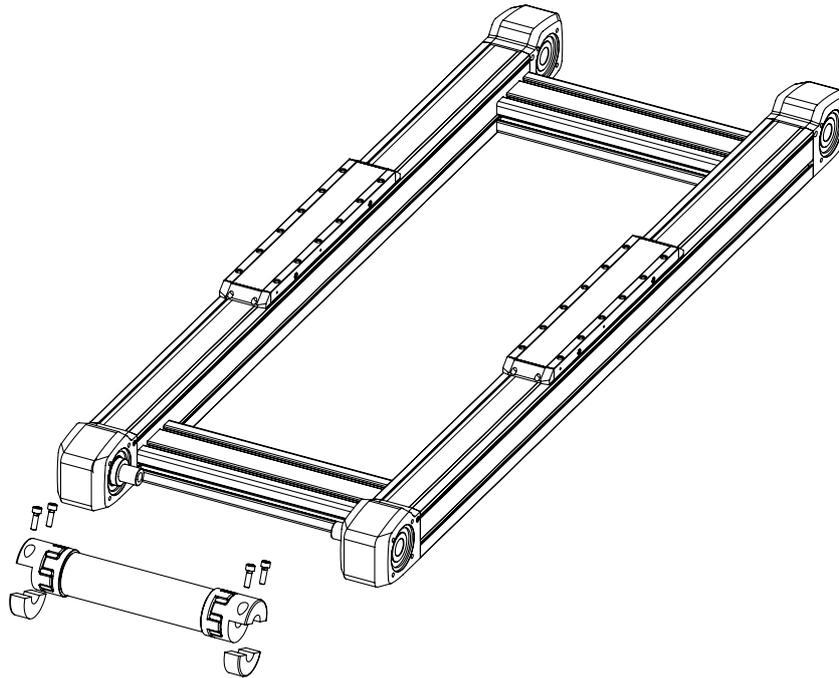

Fig. 6.4 Mounting the synchronous shaft
- ▶ Mount the half shell clamping pieces on both sides, securing them loosely with the provided bolts (see Fig. 6.4).